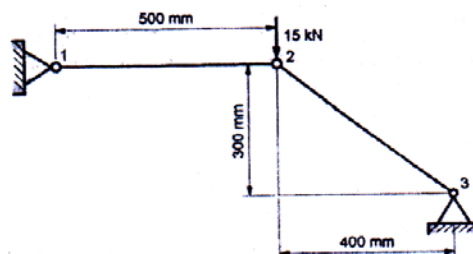

Fig.4
- Q4)** a) The two bar truss is shown in fig. 4. The modulus of elasticity for bar material is $70 \times 10^3 \text{ N/mm}^2$ and cross sectional area of each element is 200 mm^2 . Determine : **[14]**